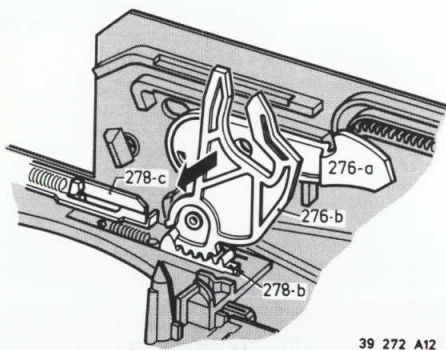

Fig. 3-1-23
- Rotate threading-in ring anticlockwise until slide pos. 278 can be moved backwards, the lift drive lever of which is brought into vertical position, and pull out the lever toward the left (Fig. 3-1-23).